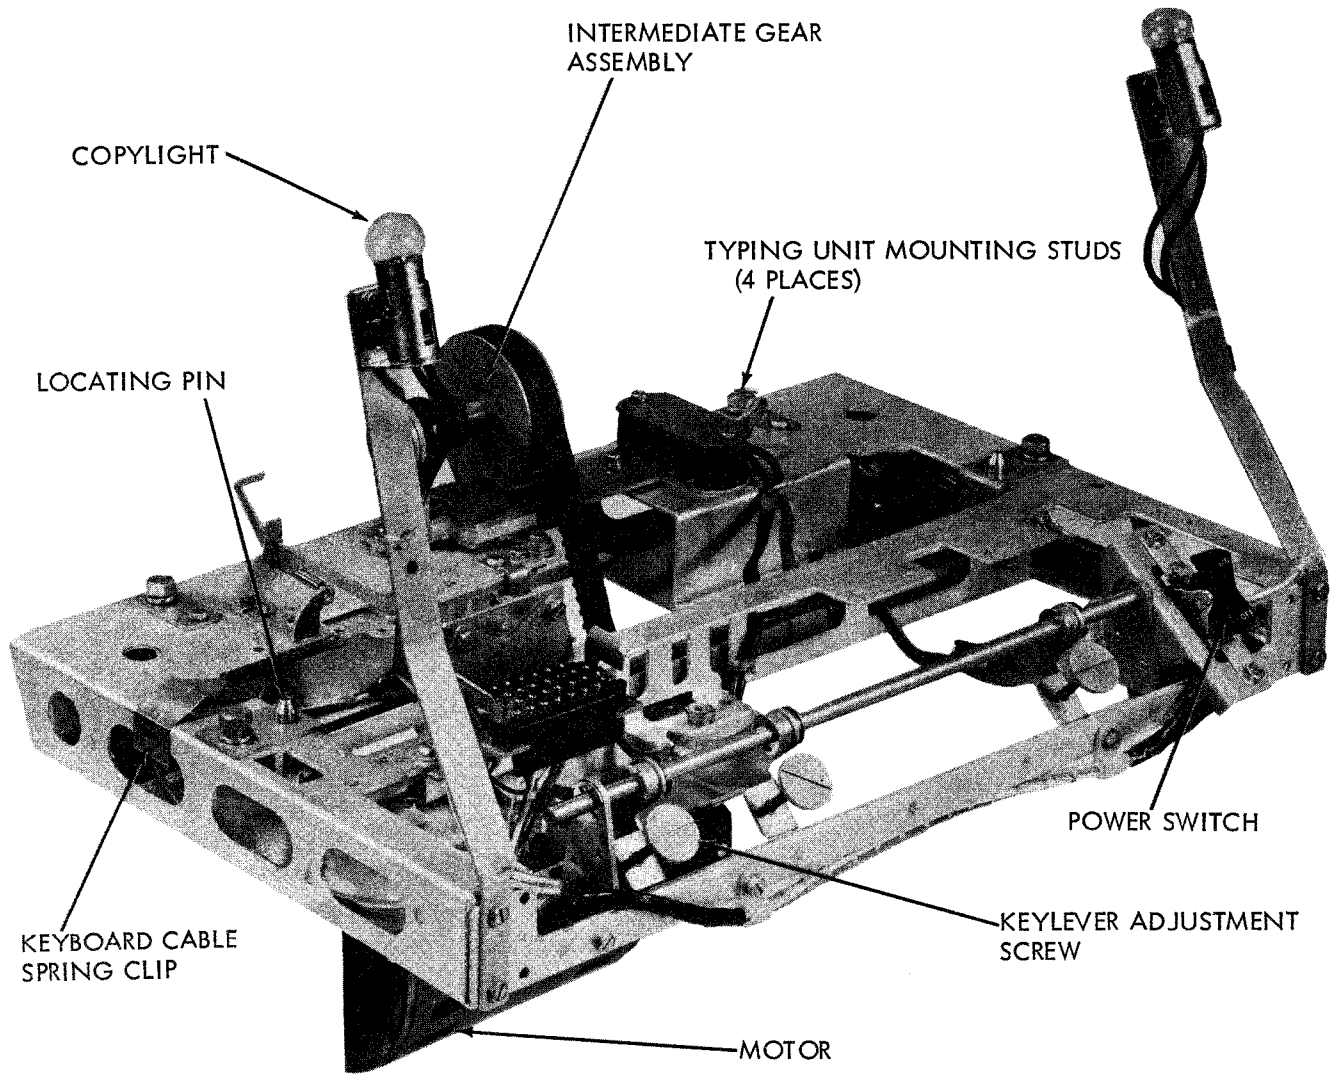

Figure 3 - Wall Mounted Printer Base, LB
b. ADDITION OF INTERMEDIATE GEAR TO KEYBOARD (OR BASE) - SEE FIGURE 3.
Remove and retain the four mounting screws supplied with the base unit. (See Figure 3). Place the typing unit on the keyboard (or base) unit and make certain that the front feet of the typing unit are placed over the locating studs provided on the base unit. Rotate the intermediate shaft by hand in order to mesh the gear teeth. Secure the typing unit to the base unit with the four mounting screws.
b. Route the keyboard connecting cable up along the left side of the mounting frame. Route the cable behind all spring clips supplied with the mounting frame for this purpose. Clamp the keyboard cable to the keyboard with the spring clip supplied on the keyboard. (See Figure 3). Route the typing unit connector up along the right side of the mounting frame and fasten with the spring clips supplied with the frame.